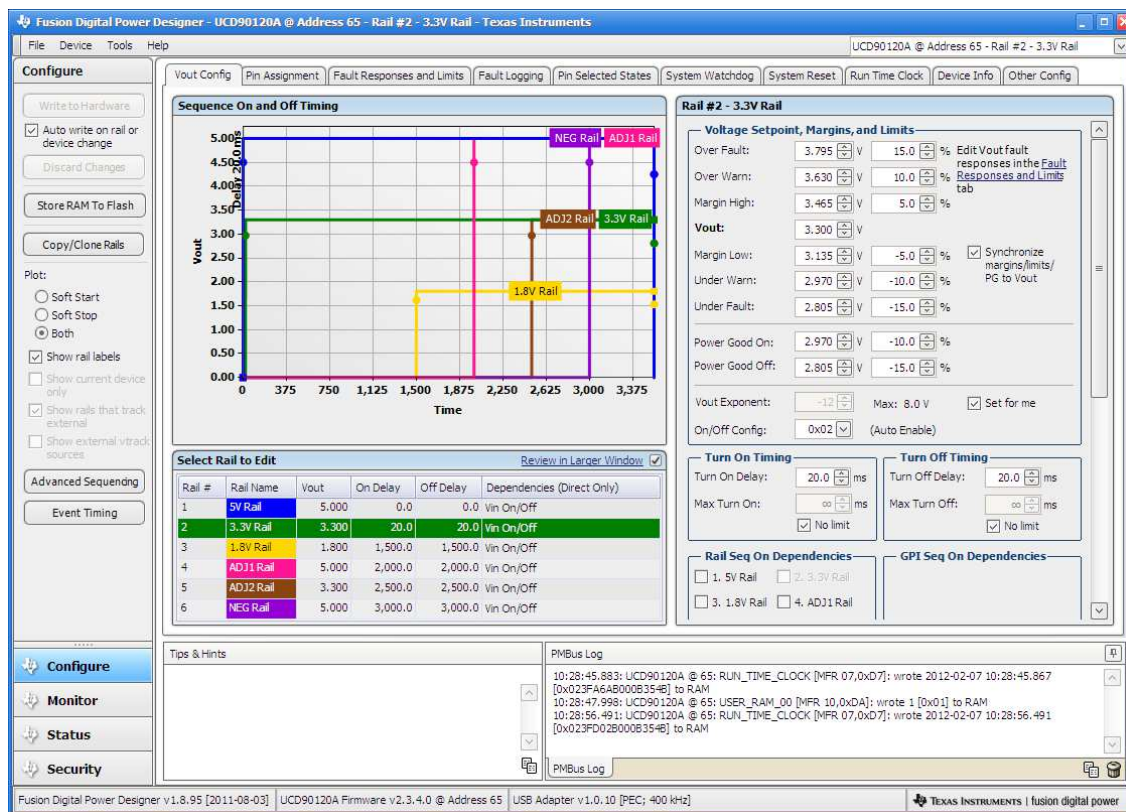

Figure 6. 5V and 3.3V Rails With 20ms Delay
2. Configure the delay settings for the 5V and 3.3V rails as shown in Figure 6.